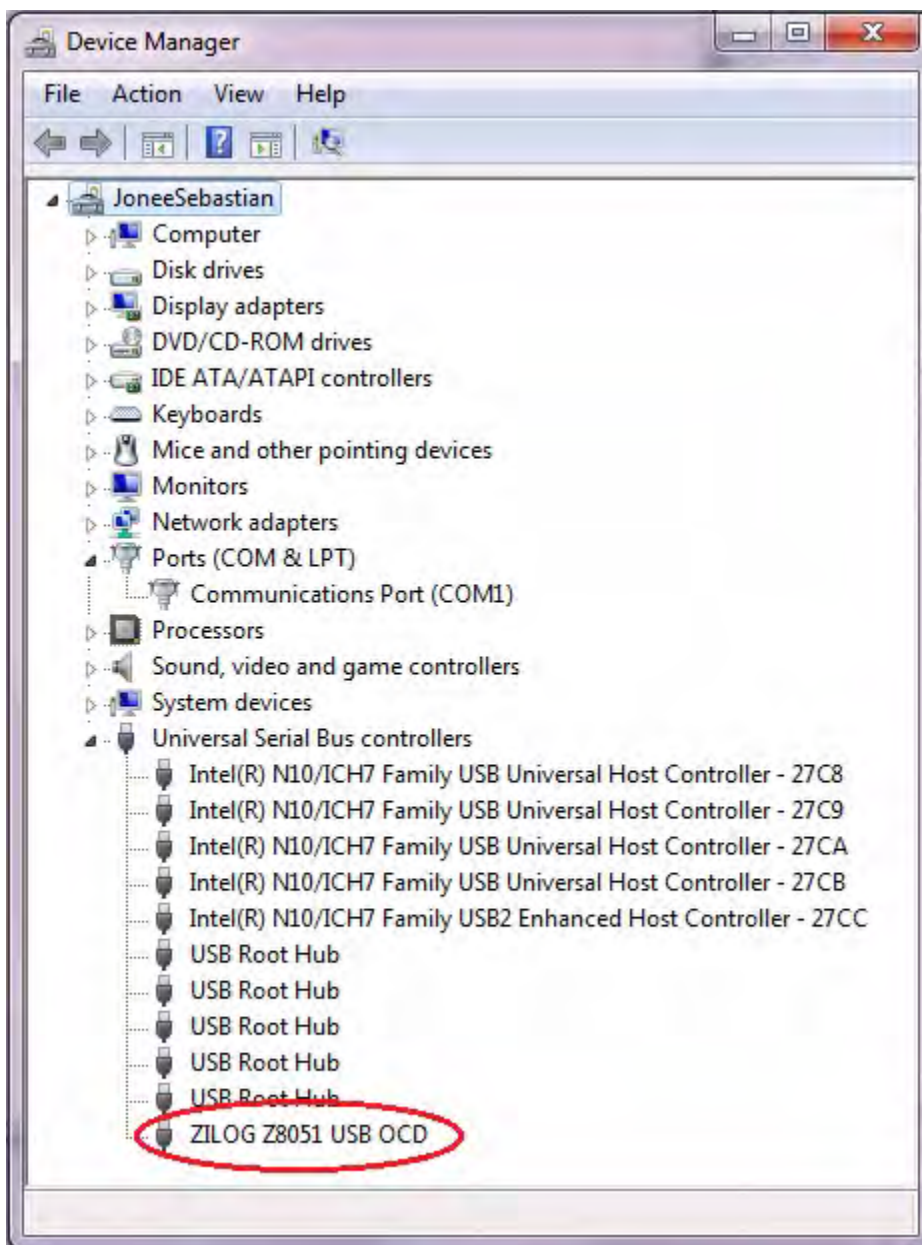

Figure 24. Device Manager Dialog, Windows 7
3. If *Zilog Z8051 USB OCD* appears in the Device Manager (as highlighted in Figure 24), the OCD driver software has been successfully installed.